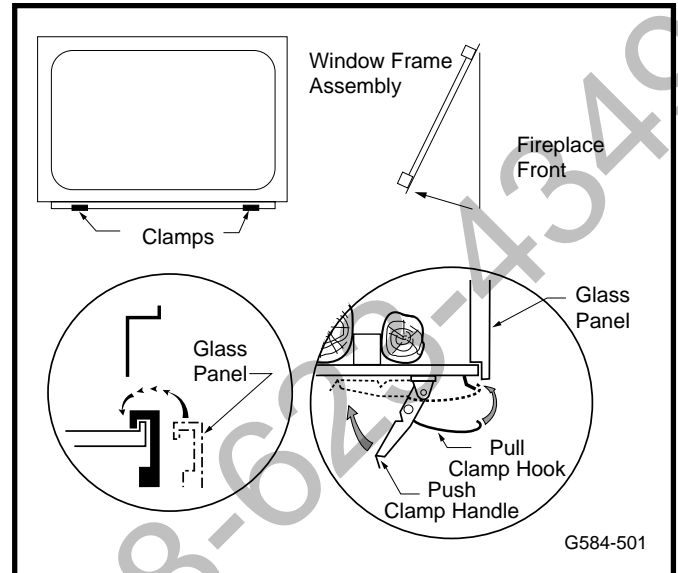

Fig. 42 Window frame assembly removal.
5. Release the two clamps along lower edge of the frame by pulling down on clamp handles. (Fig. 42)
1. Remove front glass. (Refer to "Window Frame Assembly Removal" Section, Fig. 42)